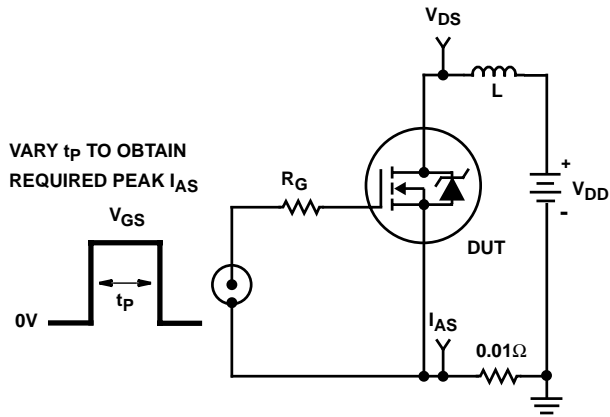

FIGURE 15. UNCLAMPED ENERGY TEST CIRCUIT
4. $V_{DD} = 20\text{V}$, start $T_J = 25^{\circ}\text{C}$, $L = 12.5\text{mH}$, $R_G = 50\Omega$, peak $I_{AS} = 3.5\text{A}$ (Figures 15, 16).